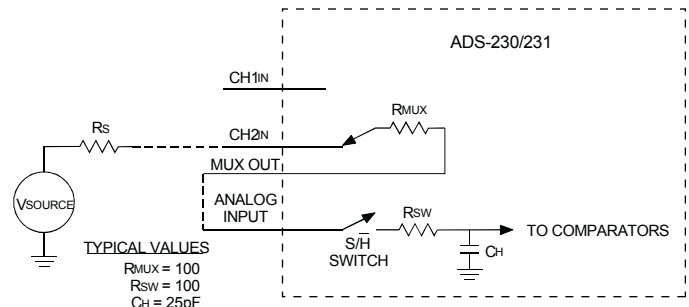

Figure 2. ADS-230/-231 Input Stage Model
Using a high-speed buffer also improves the THD performance when using the internal MUX. The MUX onresistance is non-linear over the range of the input voltage; this causes the RC time constant of the equivalent circuit shown in Figure 2 to vary with input voltage. This results in harmonic distortion with increasing frequency. Inserting a buffer between the MUX OUT and ANALOG INPUT terminals will eliminate the loading on RMUX and significantly reduce THD.
The analog input of the ADS-230/-231 can be modeled as shown in Figure 2. The S/H switch is closed during the sample period, and open during hold. The hold capacitor (CH) has to be charged to the input voltage by the source within the sample period. The source impedance (RS) will directly effect the charge time. If RS is too large, the voltage across CH will not settle to within 1/2 LSB's of the source voltage before conversion begins. This will result in conversion errors.